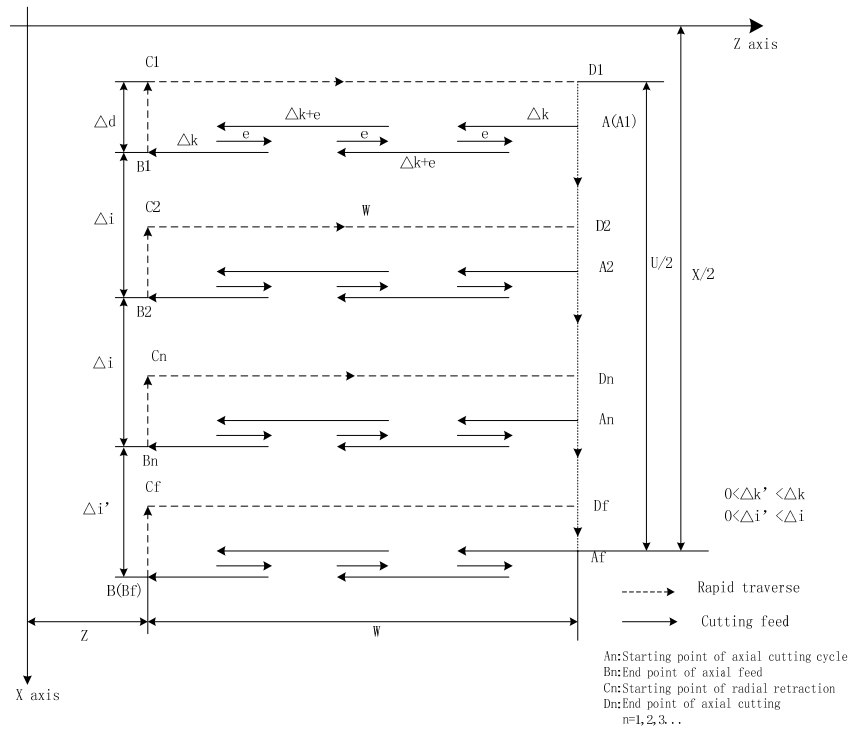

Fig. 3-79 G74 path
**P(Δi)** : radial(X) cutting for each axial cutting cycle , range:  $0 < \Delta i \leq 99999999 (IS\_B)/0 < \Delta i \leq 99999999 (IS\_C)$  (unit: least input increment, diameter value, without sign symbol).
**Q(Δk)**: radial(Z) cutting for each axial cutting cycle, range:  $0 < \Delta k \leq 99999999 (IS\_B)/0 < \Delta k \leq 99999999 (IS\_C)$  (unit: least input increment, diameter value, without sign symbol).
**R(Δd)**: radial (X) tool retraction after cutting to end point of axial cutting, range: 0~99999999× least input increment (unit: mm/inch, diameter value, without sign symbol).. The radial (X) tool retraction clearance is 0 when the system defaults the axial cutting end point. The system defaults the tool retraction is executed in positive direction when X(U) and P(Δi) are omitted.
**Execution process:** (Fig. 3-79)
- ① Axial (Z) cutting feed  $\Delta k$  from the starting point of axial cutting cycle, feed in Z negative direction when the coordinates of cutting end point is less than that of starting point in Z direction, otherwise, feed in Z positive direction;
- ② Axial (Z) rapid tool retraction e and its direction is opposite to the feed direction of ①;
- ③ X executes the cutting feed ( $\Delta k + e$ ) again, the end point of cutting feed is still in it between starting point An of axial cutting cycle and end point of axial tool infeed, Z executes the cutting feed ( $\Delta k + e$ ) again and execute ②; after Z executing the cutting feed ( $\Delta k + e$ ) again, the end point of cutting feed is on Bn or is not on it between An and Bn cutting feed to Bn in Z direction and then execute ④;
- ④ Radial(X) rapid tool retraction  $\Delta d/2$  to Cn , when X coordinate of Bf (cutting end point) is less than that of A (starting point), retract tool in X positive, otherwise, retract tool in X negative direction;
- ⑤ Axial(Z axial) rapid retract tool to Dn, No. n axial cutting cycle is completed. If the current axial cutting cycle is not the last one, execute ⑥ ; if it is the previous one before the last axial cutting cycle, execute ⑦;
- ⑥ Radial(X axial) rapid tool infeed, and it direction is opposite to ④ retract tool. If the end point of tool infeed is still on it between A and Af (starting point of last axial cutting cycle) after X executes the tool infeed ( $\Delta d/2 + \Delta i/2$ ) , i.e. Dn→An+1 and then execute ① (start the next axial cutting cycle); if X end point of tool infeed is not on it between Dn and Af after tool infeed ( $\Delta d/2 + \Delta i/2$ ), rapidly traverse to Af and execute ① to start the first axial cutting cycle;
- ⑦ X rapidly traverse to return to A, and G74 is completed.